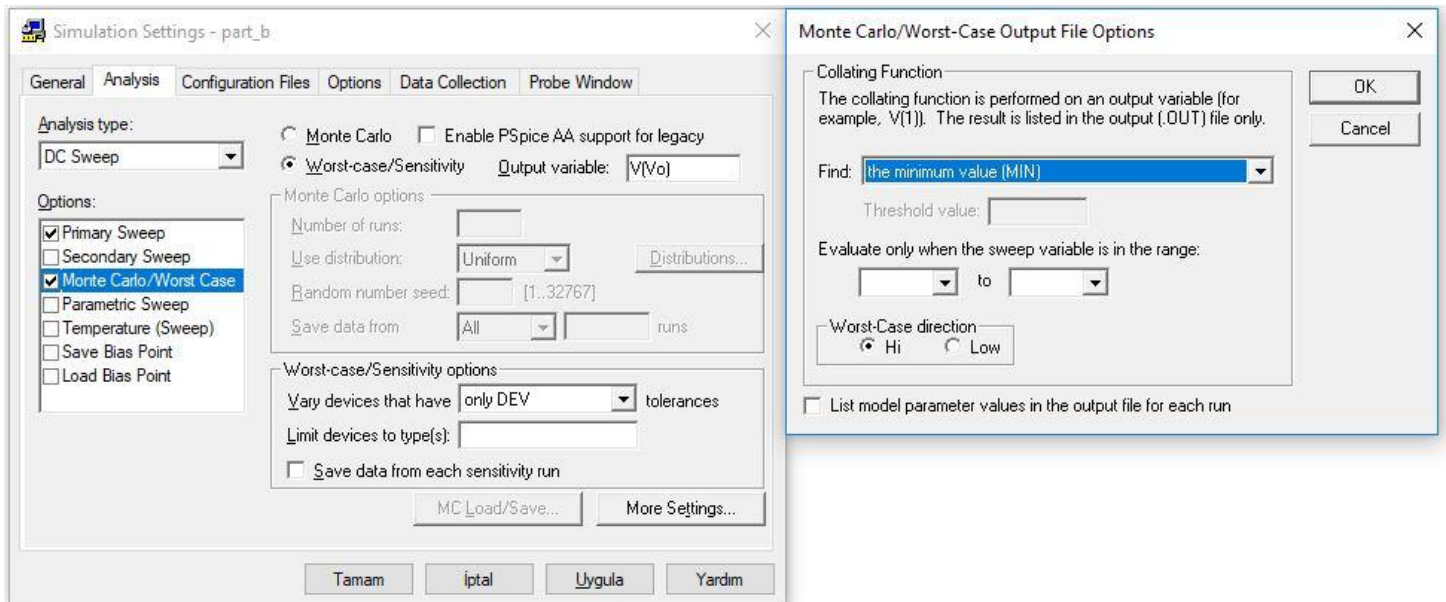

Figure 8: The setting of the analysis
2. In this section, determination of the range of the output voltage at $V_{in}=1.2V$ if the resistors have the rate of 25% tolerance. To add such a property to the resistors, the edition procedure² of a property should be done. To analyze the circuit behavior under the condition that the 25% tolerance resistors are used, dc sweep analysis with monte carlo/worst case option should be taken, the setting of the analysis is given by Figure 8. The result of the analysis is given by Figure 9.